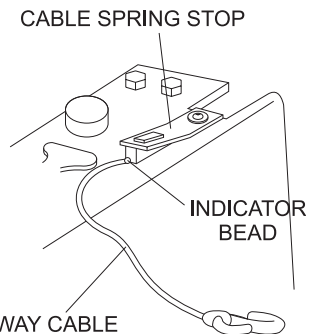

Figure 40. Trailer Hitch Release Handle
8. Make sure the breakaway cable is in a released position with the indicator bead touching or resting against the cable spring stop. (Figure 40).